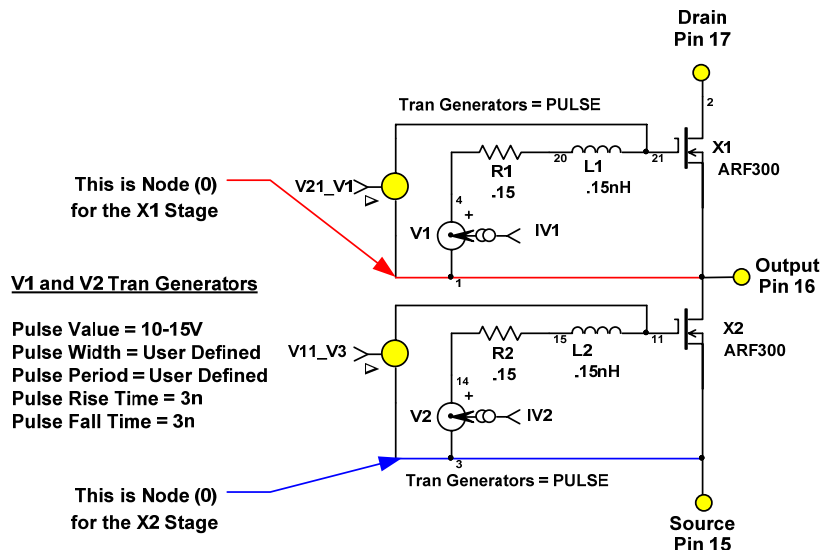

Figure 13 DRF1400
The Model illustrated in Figure 13 will operate correctly for any signal type or value at node (0).